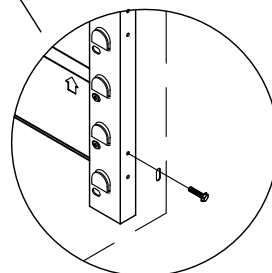

FIGURE 3
1. WHILE ONE PERSON HOLDS THE UPRIGHT FRAMES, A SECOND PERSON SHOULD INSTALL A HARDBOARD BACK PANEL (HBP). HBPs COME PRE DRILLED JUST USE THE HOLES PROVIDED TO SECURE THE HBP TO THE UPRIGHTS. (FIGURE 3)
1. WHILE ONE PERSON HOLDS THE UPRIGHT FRAMES, A SECOND PERSON SHOULD INSTALL A BACK PANEL (BK). (SEE FIGURE 1) START AT THE 2nd HOLE FROM THE FLOOR AND PUT A SCREW THERE, THIS SHOULD BE THE SAME ON THE OTHER UPRIGHT. (FIGURE 3)